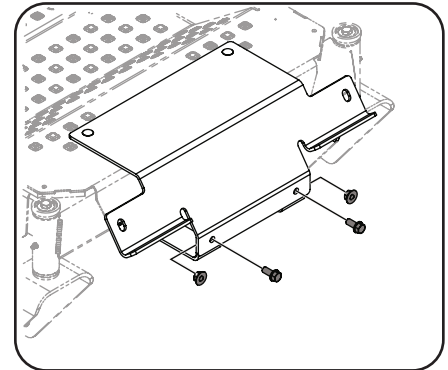

Figure 4-21
5. Secure the upper and lower bracket with two bolts (710-4482) and two nuts (712-04217). See Figure 4-21.